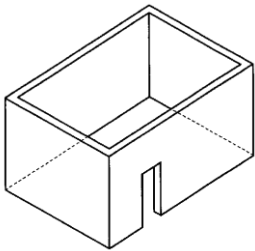

Figure 1 - Enclosure with walls on all sides but overhead cover
1. An enclosure with walls on all sides, but at least one permanent opening at ground level and no overhead cover. See Fig 1.